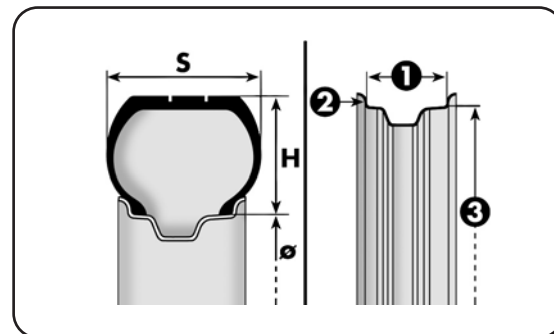

fig. 4
### READING TYRE MARKINGS fig. 4
**READING RIM MARKINGS fig. 4**